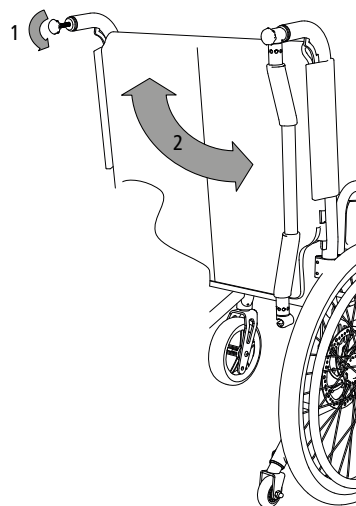

Fig. 27
1. To do this, unscrew the star grip screw so far (1, Fig. 27) that the plastic part protrudes from the recess.
2. You can then swivel the push rod sideways downwards (2, Fig. 27). The push bar is now unlocked and the wheelchair can be folded up. To lock the push rod, carry out the steps in reverse order.